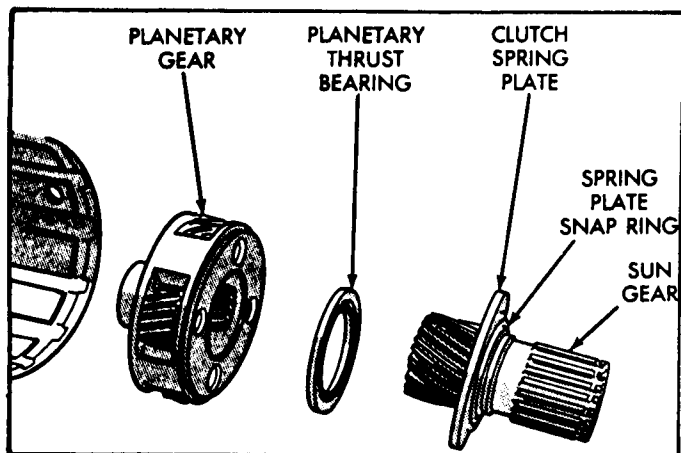

Figure 16
23. Remove sun gear, planetary thrust bearing, and overdrive carrier, as shown in Figure 16.